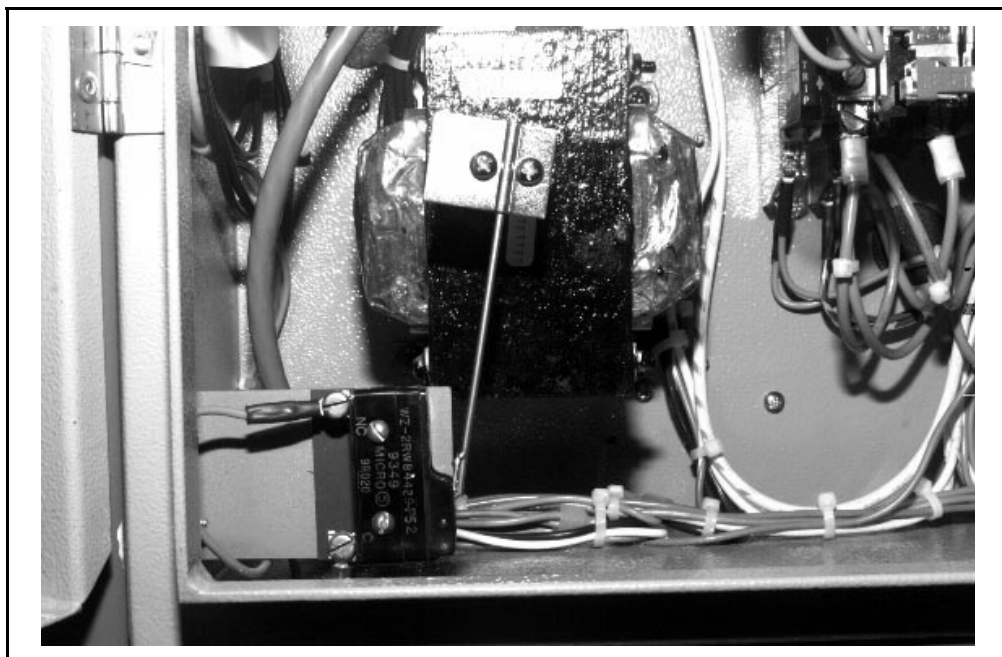

FIGURE 8 (MSIN0301AE)
- Vibration safety switch restraint, FIGURE 8 (all 36" and larger machines).